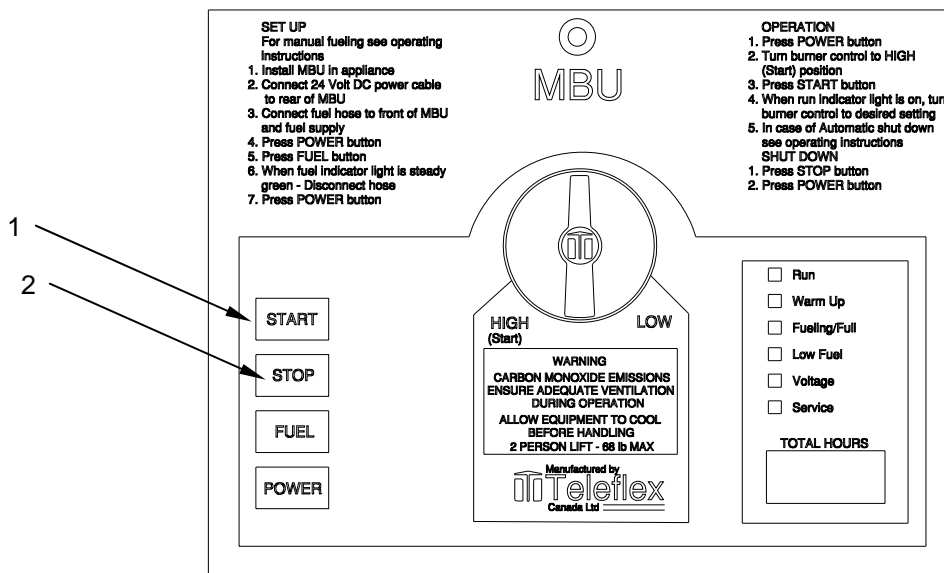

Figure 2. Test the Flame Sensor.
2. Attempt to start the MBU by pressing and releasing the start button (Figure 2, Item 1).
4. Press the stop button (Figure 2, Item 2) to clear the error code.
5. Press and hold the start button (Figure 2, Item 1). Wait for the MBU to ignite and continue holding the start button for another 20 seconds. If the flame sensor is bad, the burner should shut off immediately when the button is released. The burner will display error message ER01.